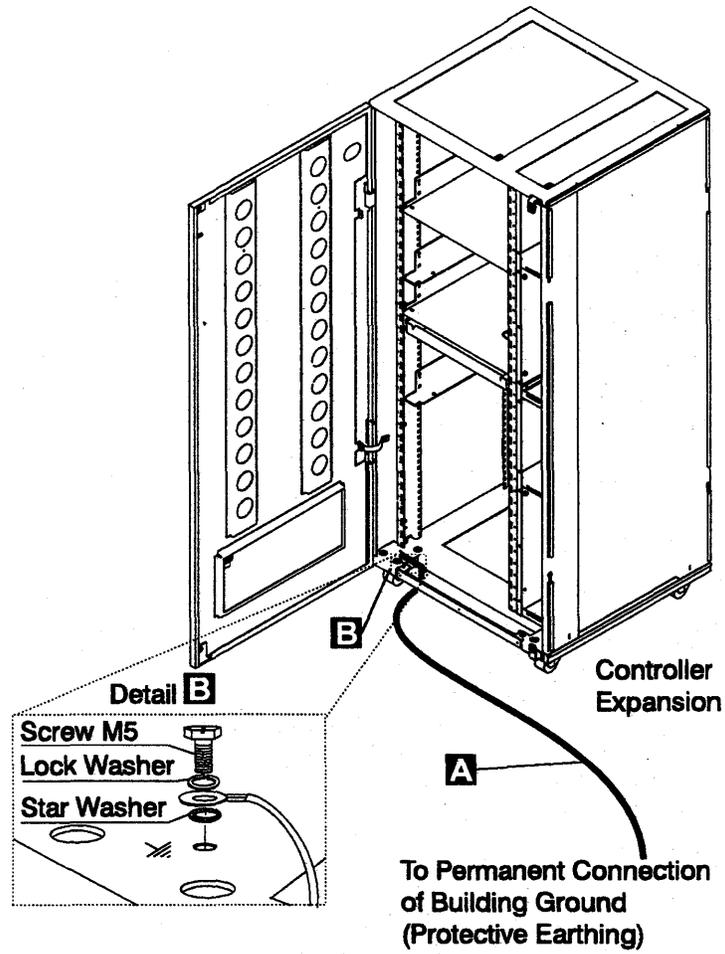
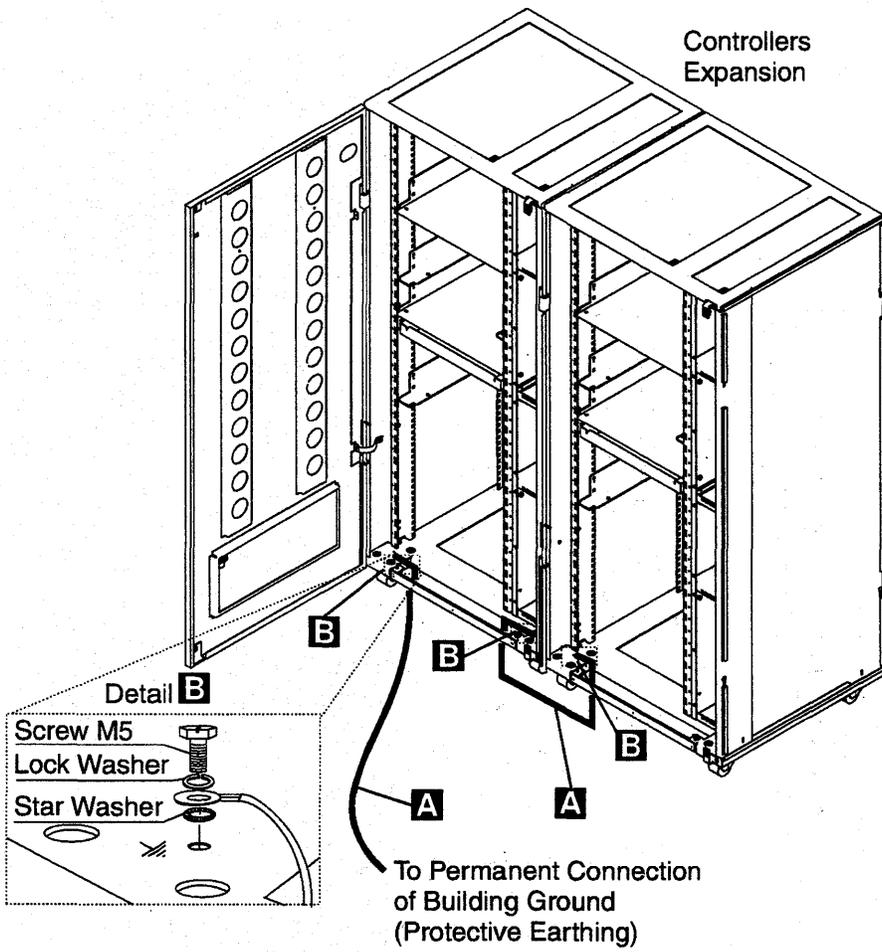
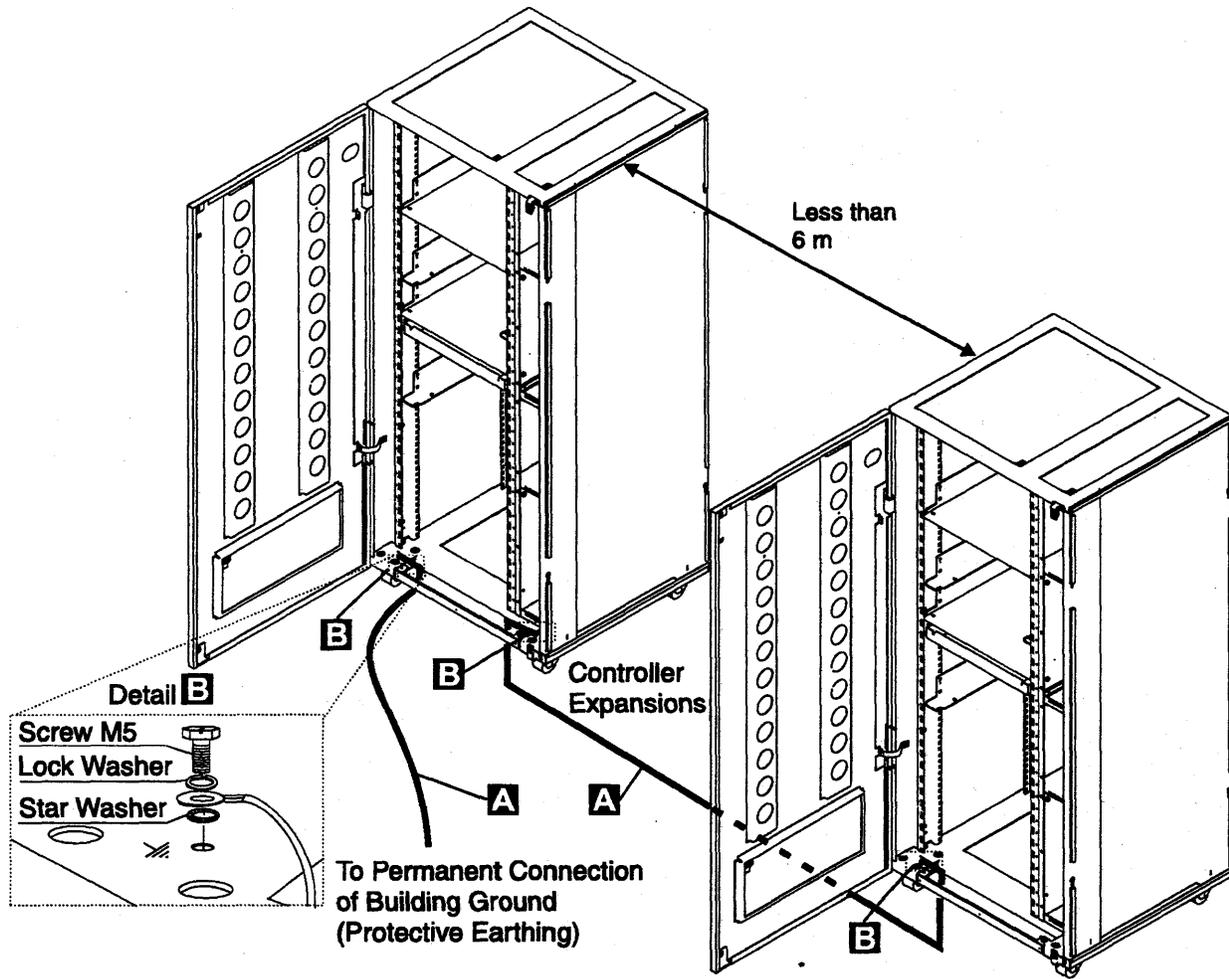
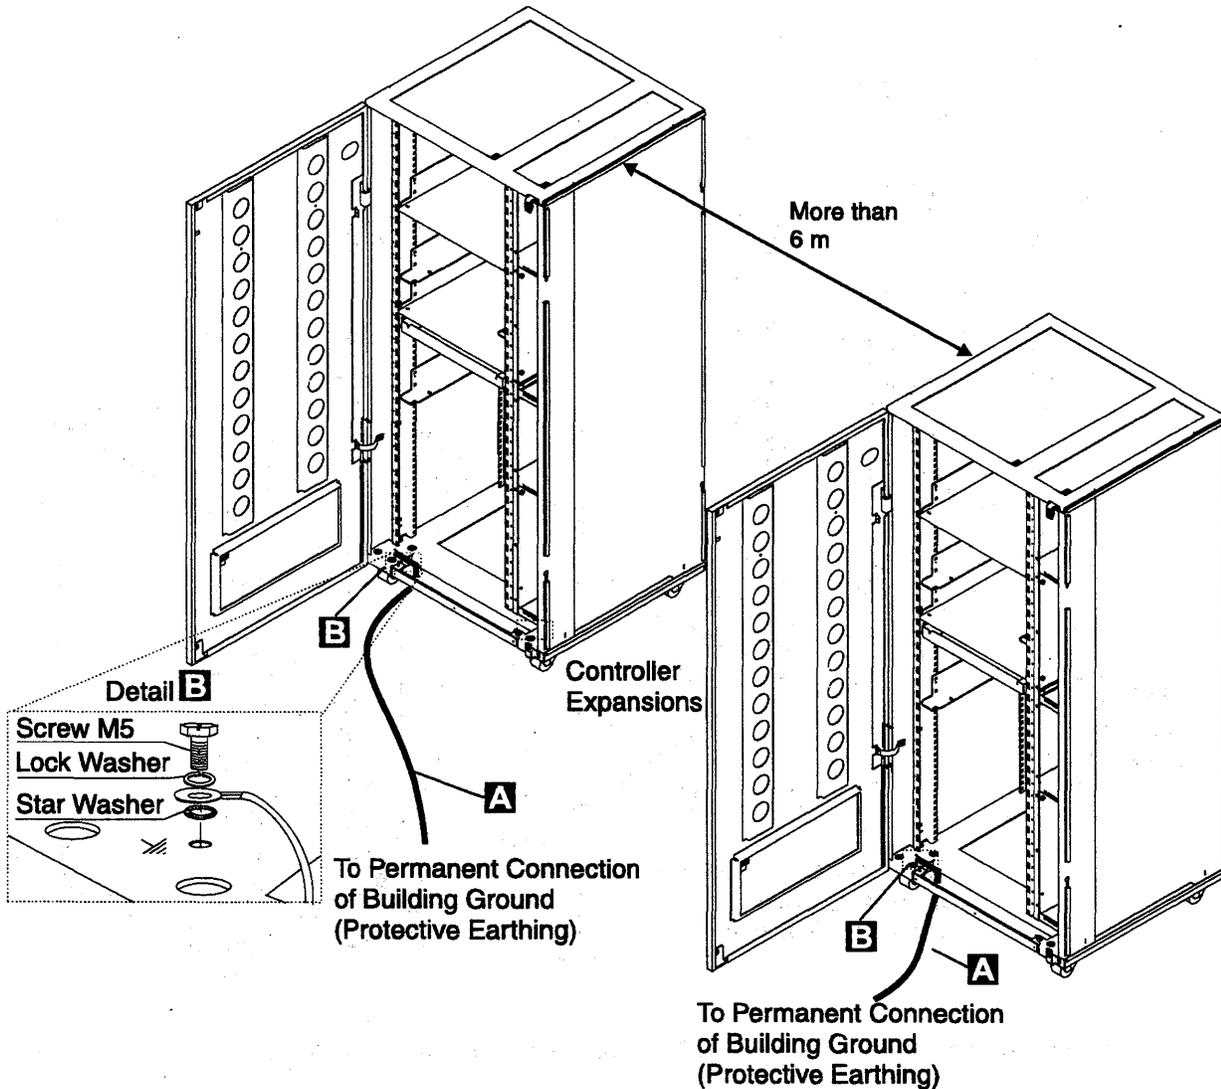

Figure 0-2. Ground Wire Connection on Controller Expansion
Figure 0-3. Ground Wire Connection Between Attached Controller Expansions
Figure 0-4. Ground Wire Connection Between Controller Expansions at Less than Six Meters
Figure 0-5. Ground Wire Connection Between Controller Expansions at More than Six Meters
Do not remove the power cord and ground strap **A** of the controller expansion in order to maintain the ground protection (see Figure 0-2 on page xxi, Figure 0-3 on page xxii, Figure 0-4 on page xxiii, or Figure 0-5 on page xxiv).
- For controller expansion, an additional ground wire **A** is also used (see Figure 0-2 on page xxi, Figure 0-3 on page xxii, Figure 0-4 on page xxiii, or Figure 0-5 on page xxiv).
- If you have only one controller expansion installed, check that the ground wire **A** is installed (see Figure 0-2 on page xxi).
- If you have several controller expansions installed, check that the ground wires **A** are installed according to your configuration (see Figure 0-3 on page xxii, Figure 0-4 on page xxiii, or Figure 0-5 on page xxiv).